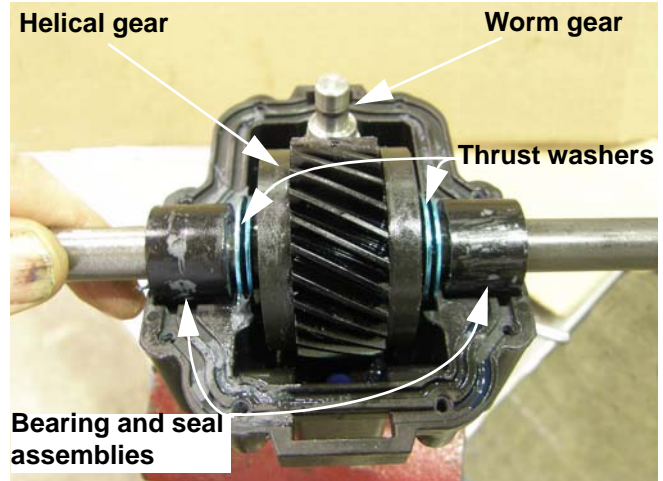

Figure 4.64
3. The helical gear and axles are supported by a pair of axle bearings. Blue-colored thrust washers control axle end-play. See Figure 4.64.